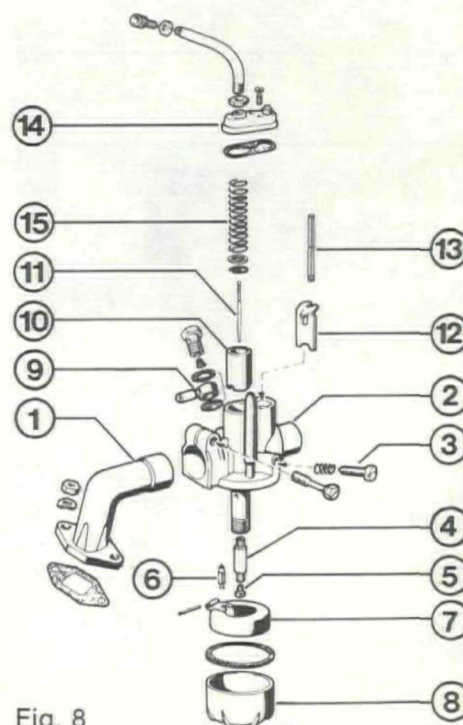

Fig. 8
- 9) Unscrew the main jet (figure 8/5) being screwed in the needle jet (figure 8/4) and clean by blowing through or by using a stiff bristle. Never use a piece of wire. Also, unscrew needle jet and clean.
- 10) Clean the float chamber (figure 8/8) with gasoline.
### Exploded view of the carburetor (see fig. 8)